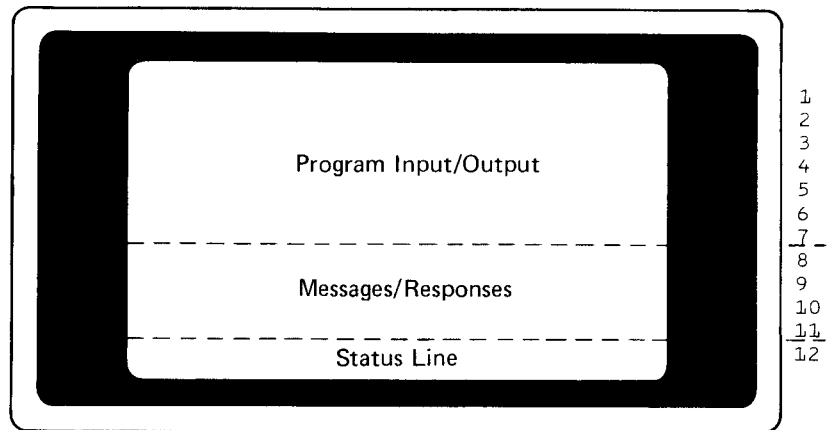

Figure 13. Data Management Format
- Data management format (Figure 13)
Figure 13 consists of seven lines of program input/output area (lines 1 through 7) and four lines of messages and responses (lines 8 through 11). The program input/output area is where you enter data in response to an ENTER DATA $\begin{Bmatrix} P1 \\ P2 \\ P3 \end{Bmatrix}$ prompt and also the area where application programs can display data to you. Any system messages that occur while in this format are displayed in the messages/responses area.